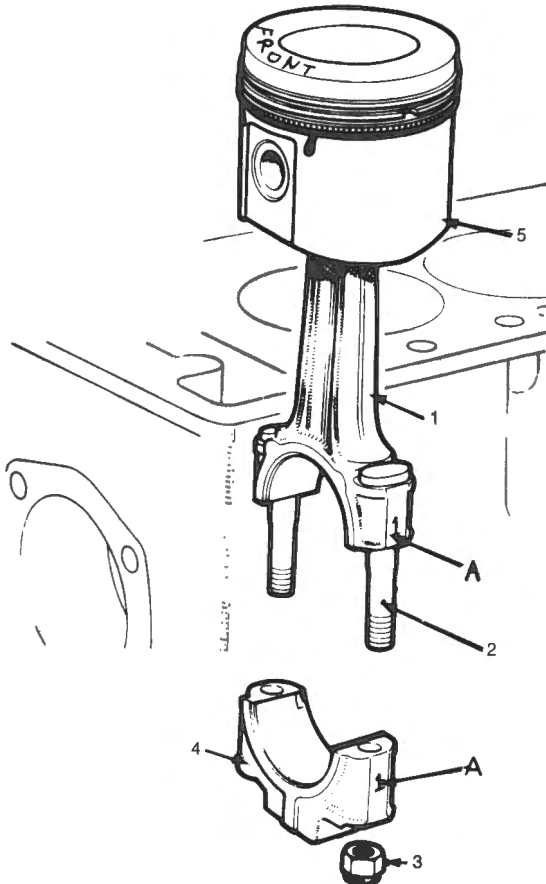

Fig. E-38
NOTE: The pistons have offset gudgeon pin bosses and can only be fitted one way; to the 'FRONT' of the engine as shown in Fig. E-38.
- 9 Mark the connecting rods and caps so that they may be assembled in their correct order. Ref. Fig. E-38.